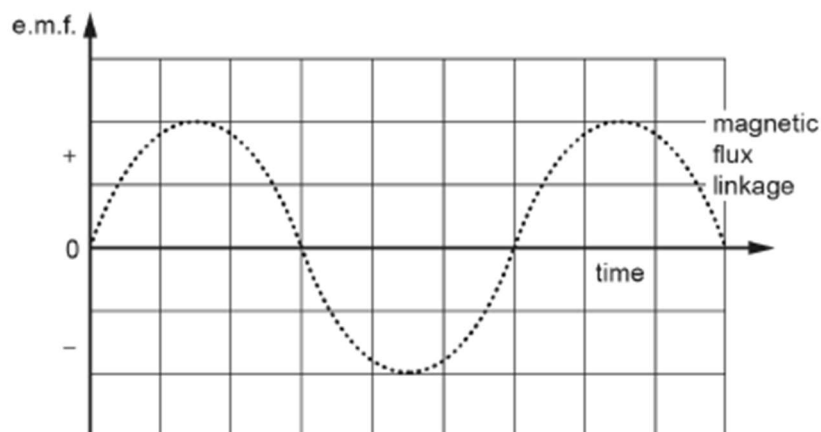

Fig. 7.2
- (a) On Fig. 7.2, sketch a graph of the variation of the e.m.f. induced in the coil against time. The variation of the induced magnetic flux linkage in the coil is shown as a dotted line. [1]
- (c) At a certain time t_1 the orientation of the spinning magnet is momentarily as shown in Fig. 7.1. Mark the time t_1 on the time axis of Fig. 7.2. [1]